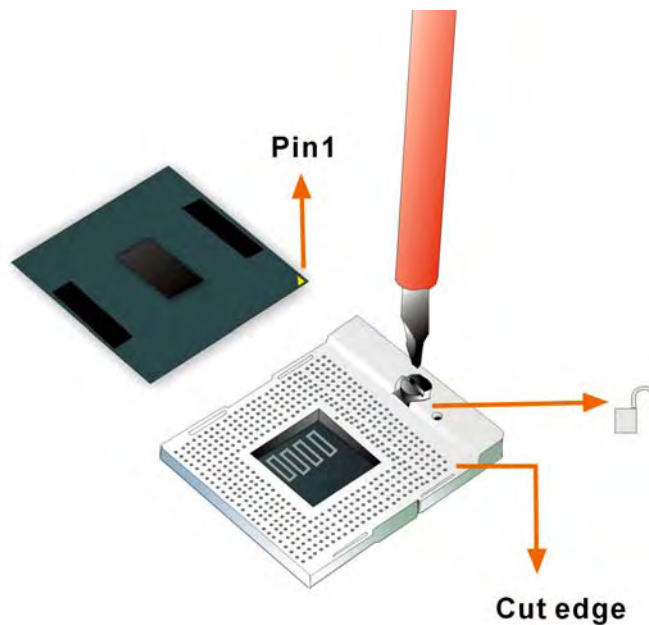

Figure 4-1: Make sure the CPU socket retention screw is unlocked
- Step 1:** Is the CPU retention screw in an unlocked position? When shipped, the retention screw of the CPU socket should be in the unlocked position. If it is not in the unlocked position, use a screwdriver to position it in an unlocked position. (See **Figure 4-1**)